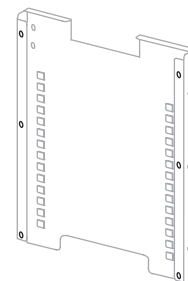

Figure 1-10. Grommets on back of duct sheet
1. Installed included grommets inot the back flange of each duct sheet; 6 grommets per sheet. See Figure 1-10.